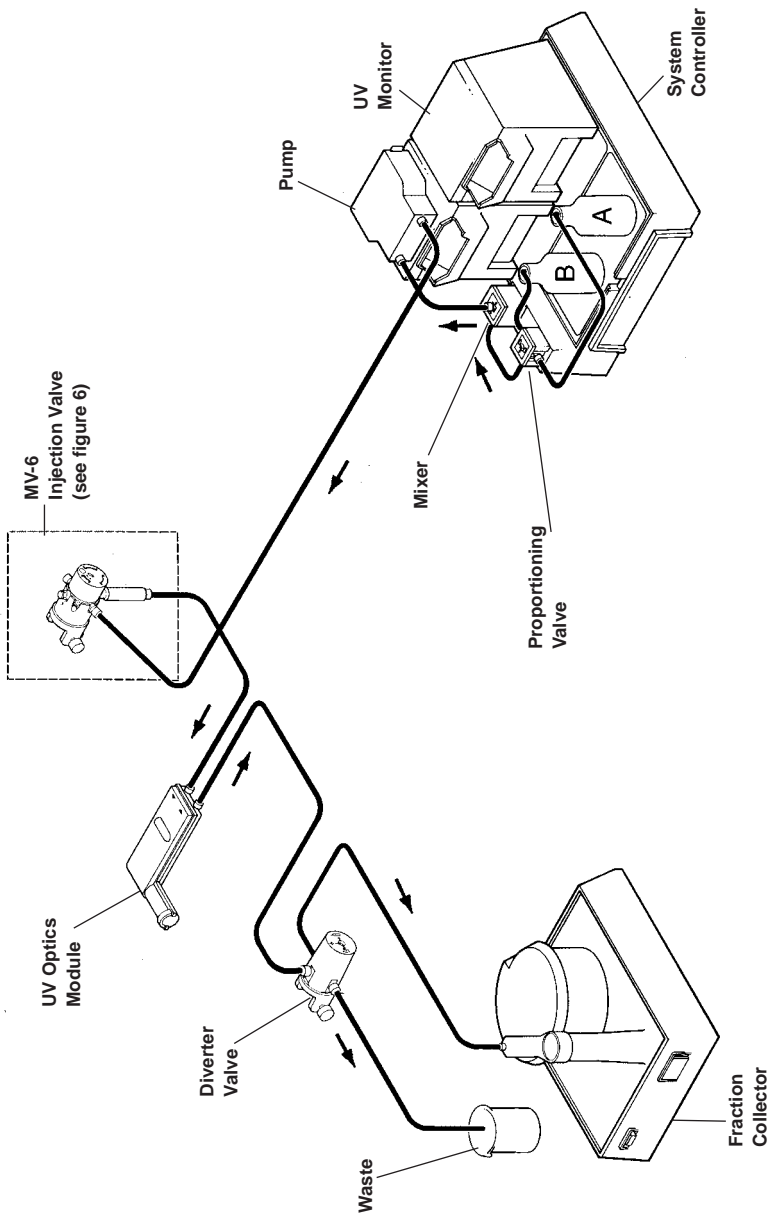

Fig. 5. The standard Econo System plumbing diagram. Minimize tubing lengths between components to reduce dead volume.
4. Place the bottles containing buffer A and buffer B in the solvent reservoir behind the pump and UV monitor. Connect tubing from the buffers to the proportioning valve, as illustrated in Figure 5.
5. Use Figure 5 as a guide for plumbing the proportioning valve to mixer, mixer to pump, and diverter valve to fraction collector and waste.
5. Plumb the outlet of the cartridge to the UV monitor optics module (figure 5).